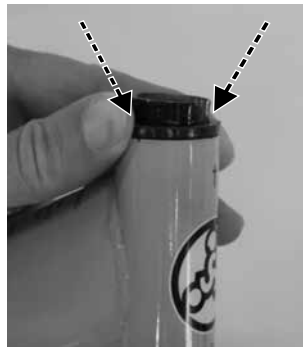
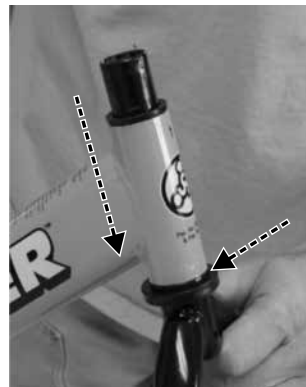

Fig 3
Fig 4
3. While holding top bushing in place with thumb and forefinger (Fig 3) slide fork up through the head tube on frame (Fig 2) Take care not to push out the top bushing. Make sure head tube sits tightly on cupped washer (Fig 4).